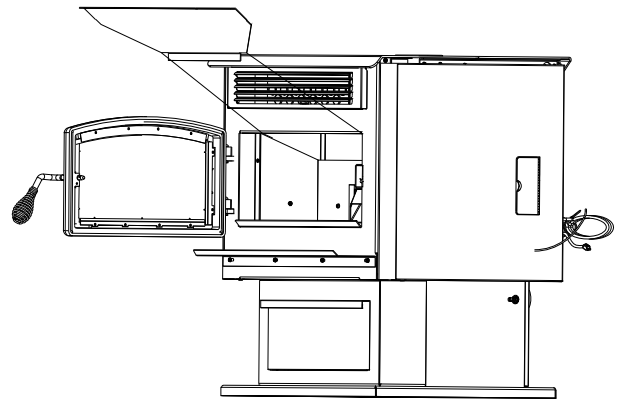

FIGURE 18
- With the door closed, clean heat exchanger tubes by activating the cleaning rod back and forth from front to back. (see Cleaning section and Figure 18 & 19) .